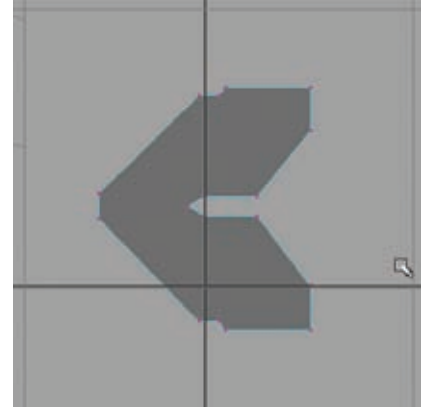

Figure 4.13
11. In the Top view, select Mesh → Create Polygon Tool, and create a shape that will form a pattern on your tire's tread. I used a pattern similar to one I found in reference photos online, which looks like Figure 4.13.